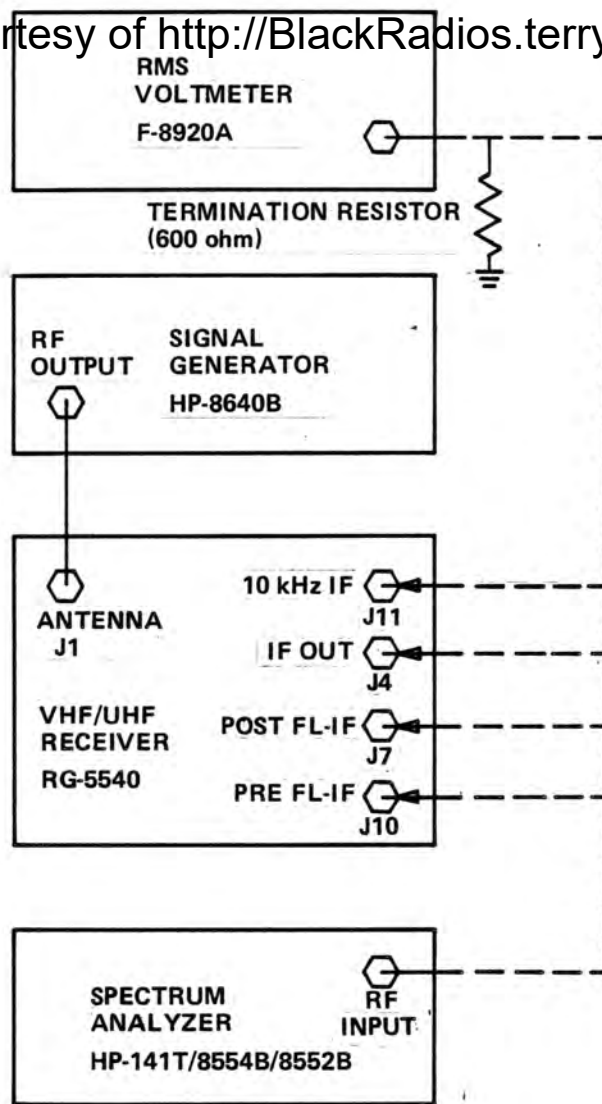

Figure 5-3. IF Output Test
1. Connect the spectrum analyzer and signal generator as shown in Figure 5-3 with spectrum analyzer connected to IF OUT-J4.
13. Connect RMS voltmeter with 600 ohm termination to 10 kHz IF-J11 as shown in Figure 5-3.